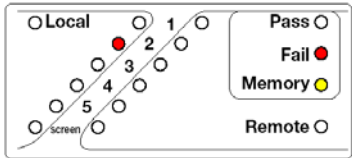

Fig 9. OPEN circuit between Local Pin2.
b) An open connection was found, usually indicated by a single LED (Fig9).